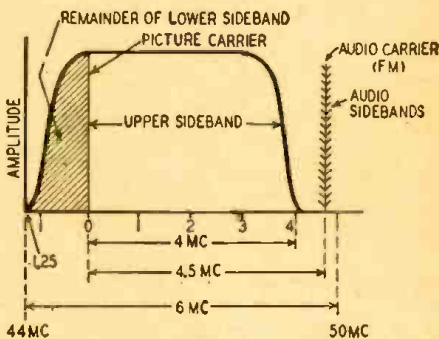

Fig. 6—Lower sideband is partly suppressed.
4. The visual transmission characteristic shall be: (as shown in Fig. 6).
For example, Fig. 6. If we consider a phonograph pick-up having a voltage output of .85 volts and connect it to points (a) and (c), what voltage will appear at the grid of the tube, points (b) and (c)?